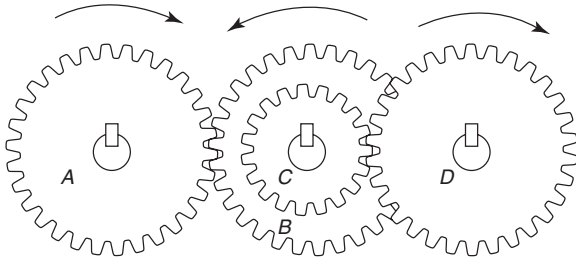

Figure 18.6
A **compound gear train** is shown in Figure 18.6, in which gear wheels *B* and *C* are fixed to the same shaft and hence  $N_B = N_C$ .
Problem 8. A compound gear train similar to that shown in Figure 18.6 consists of a driver gear *A*, having 40 teeth, engaging with gear *B*, having 160 teeth. Attached to the same shaft as *B*, gear *C* has 48 teeth and meshes with gear *D* on the output shaft, having 96 teeth. Determine (a) the movement ratio of this gear system and (b) the efficiency when the force ratio is 6.
3. A compound gear train is as shown in Figure 18.6. The movement ratio is 6 and the numbers of teeth on gears *A*, *C* and *D* are 25, 100 and 60, respectively. Determine the number of teeth on gear *B* and the force ratio when the efficiency is 60%.